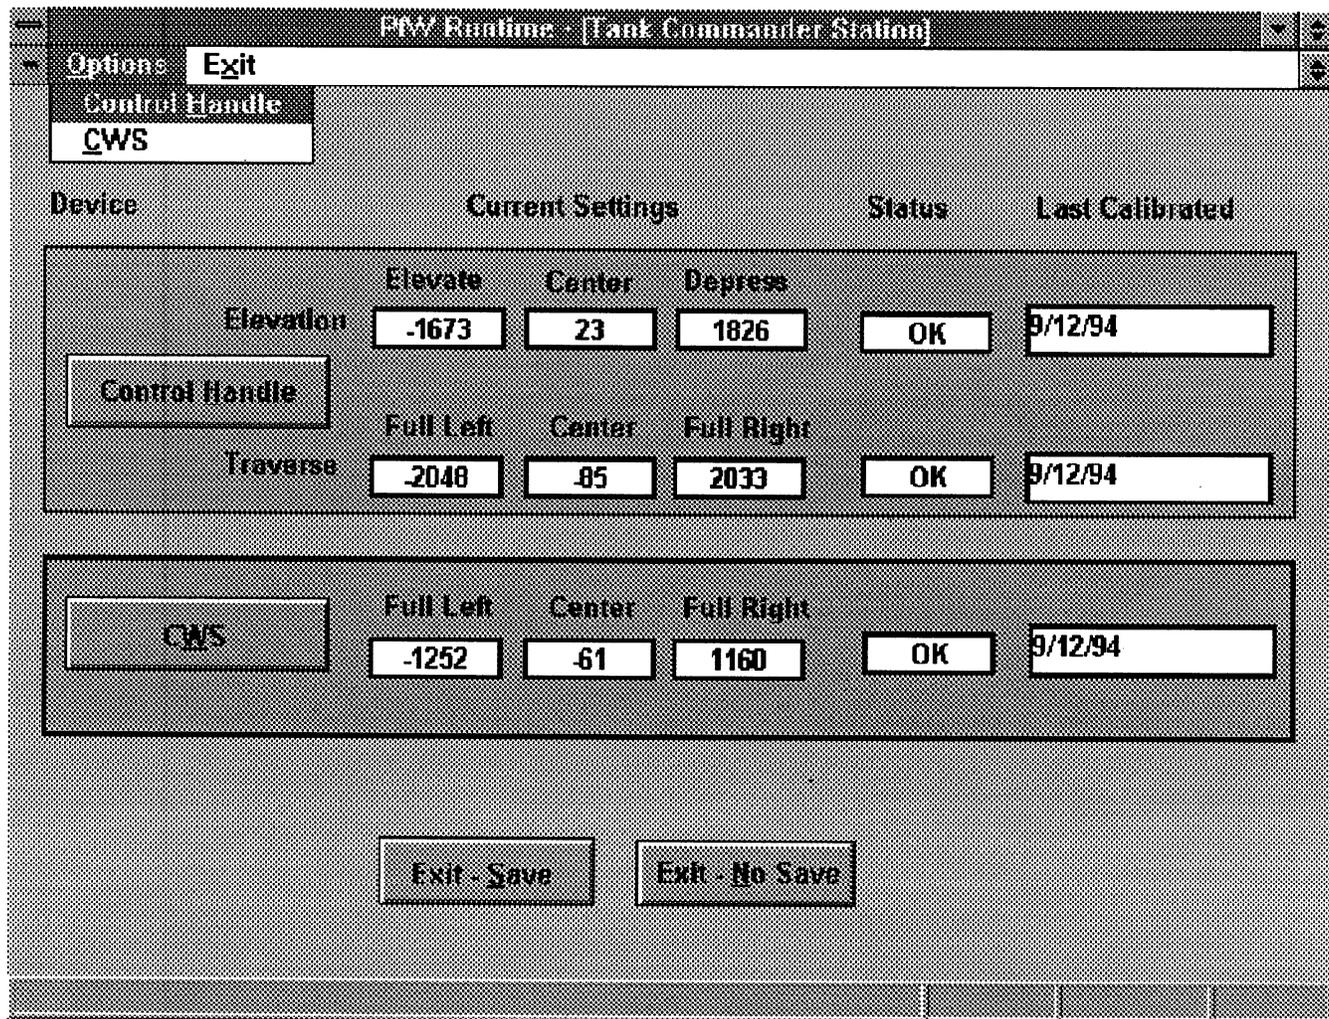

Figure 2-101. Tank Commander Station Screen
- a. At the Calibrate/Recalibrate Screen, click on the TC Station button or select TC Station from the pull-down Options menu. The Tank Commander Station Screen, Figure 2-101, displays.